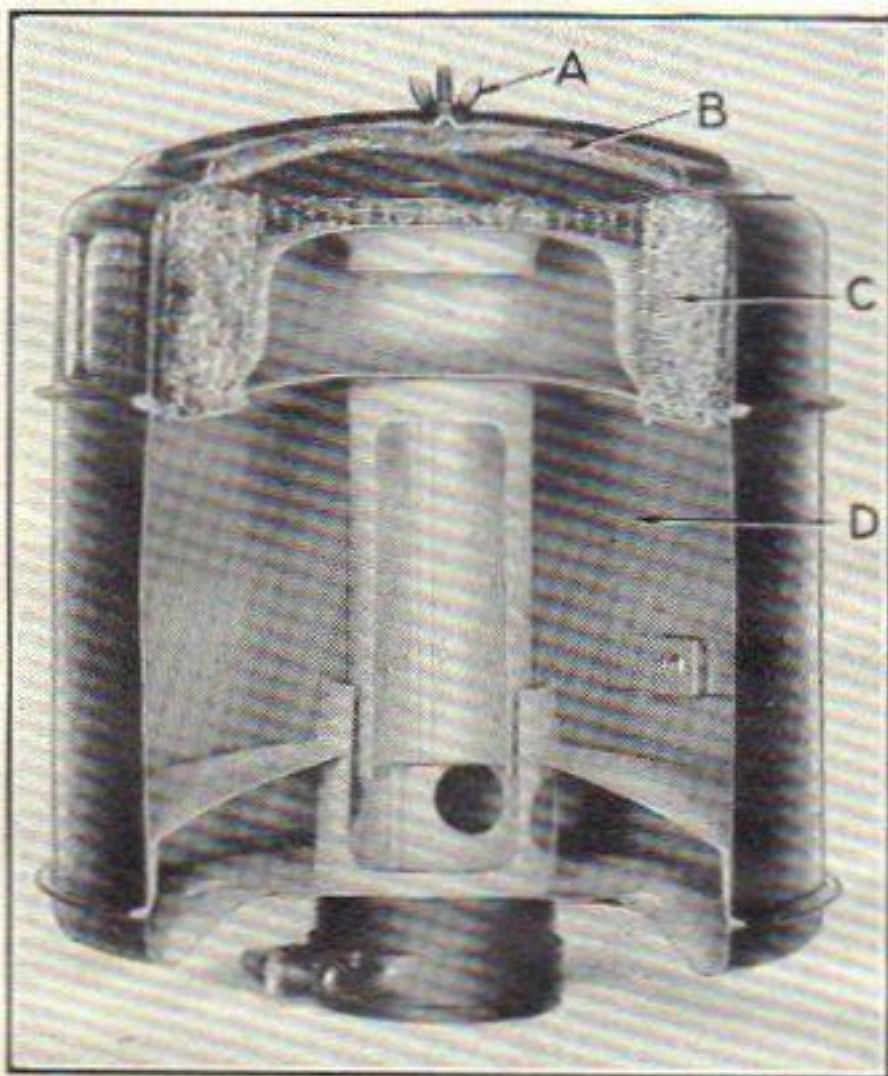

Figure 14
1. Remove wing nut (A), cover and pad (B) and filter unit (C), Figure 14.